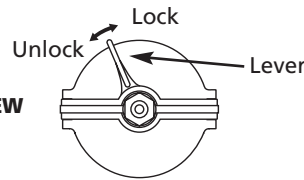

Figure 1
1. Remove canister from yoke/lid assembly (See Figure 1).
5. With lever in far left position, assemble cup to yoke. Slide locking lever toward center until firm (See Figure 1). Do not force lever.